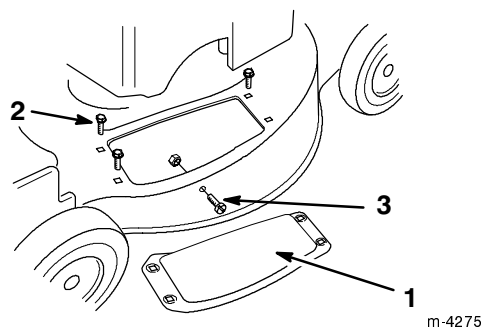

Figure 45
4. Remove and save the three bolts that secure the discharge cover to the lawn mower (Fig. 45). Save the cover and bolts for future use.
2. Bolt (3)
5. Remove the screw and nut from side of the lawn mower (Fig. 45). Save them for future use.
6. Install the side cover clamp and the knob to secure the side opening cover (Figs. 45 and 51).